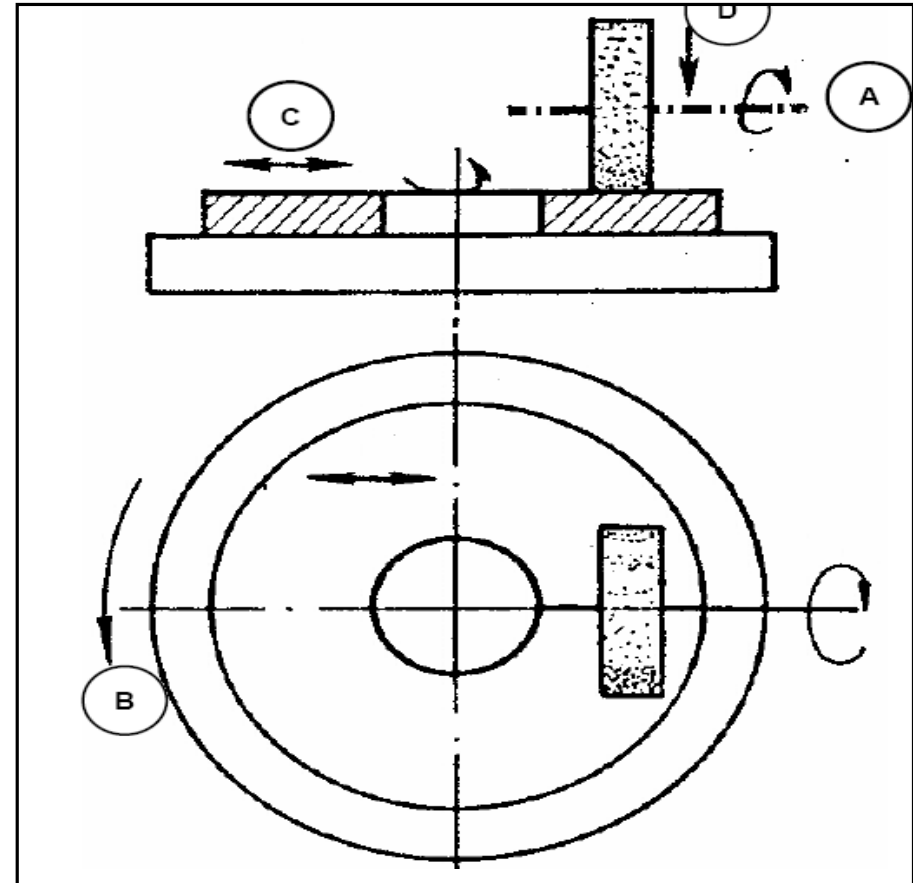

Fig. 5 Horizontal spindle rotary table grinder
- Surface grinding in this machine is shown in Fig. 5. In principle the operation is same as that for facing on the lathe.